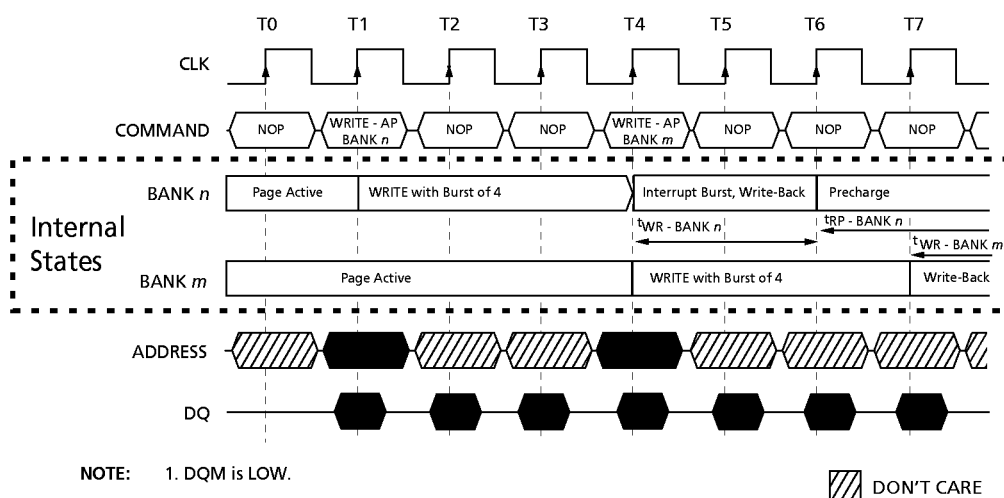

Figure 27
- Interrupted by a WRITE (with or without auto precharge): A WRITE to bank m will interrupt a WRITE on bank n when registered. The PRECHARGE to bank n will begin after t_{WR} is met, where t_{WR} begins when the WRITE to bank m is registered. The last valid data WRITE to bank n will be data registered one clock prior to a WRITE to bank m (Figure 27).